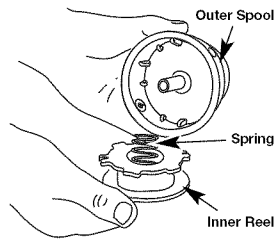

Fig. 12
2. Remove the inner reel from the outer spool (Fig. 12).
3. Remove spring from the inner reel (Fig. 12).
- outer spool (Fig. 12).
3. Remove the spring from the old inner reel (Fig. 12).